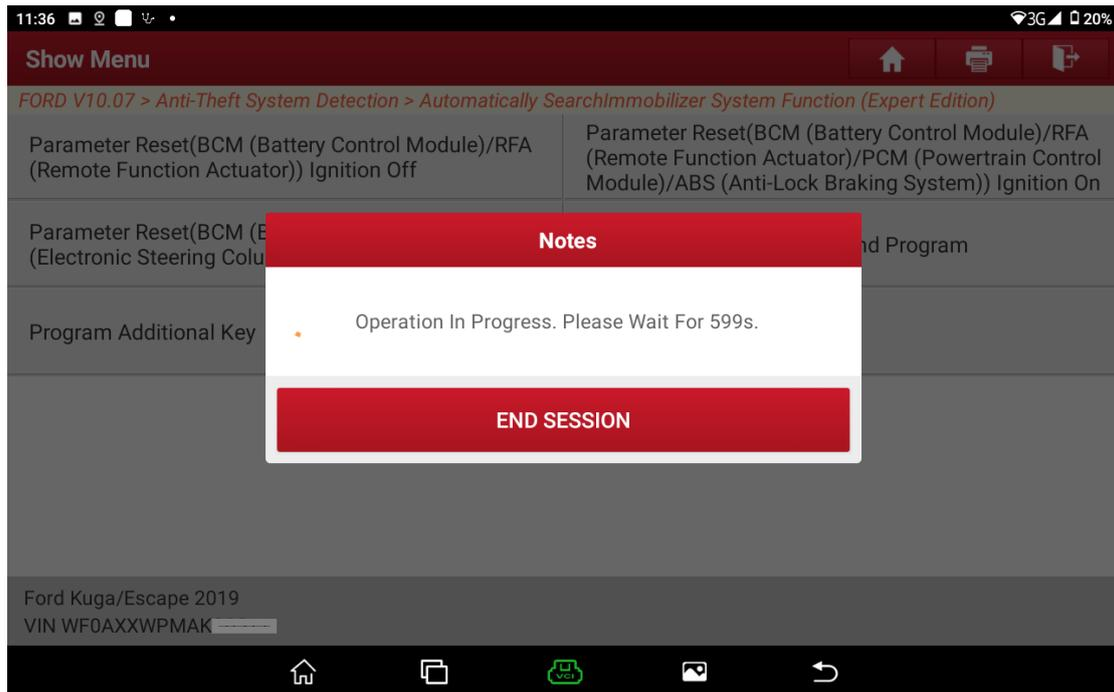

Figure 15
13. Count down from 600s. See Figure 15.